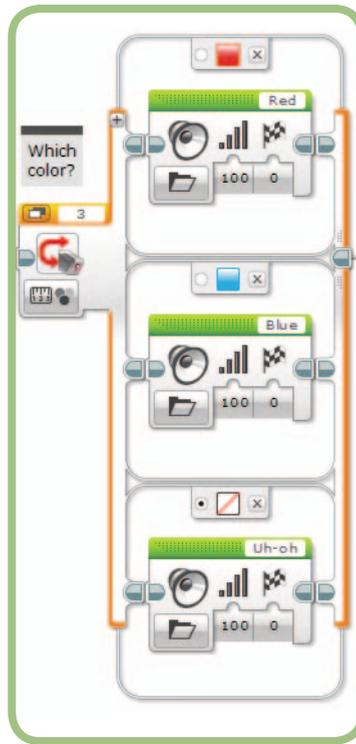

Figure 6-16: Setting the default to No Color
- Figure 6-16 shows the final configuration of the Switch block.